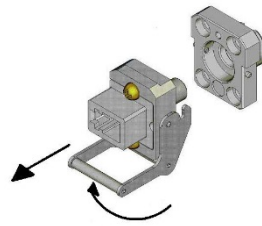

Figure 10-1 - Removable Front Adapter (connector type might be different)
3. Remove the optical adapter pushing upwards the horizontal metal bar below the connector. With special care pull out the adapter to extract it from the front panel. Please, refer to Figure 10-1.